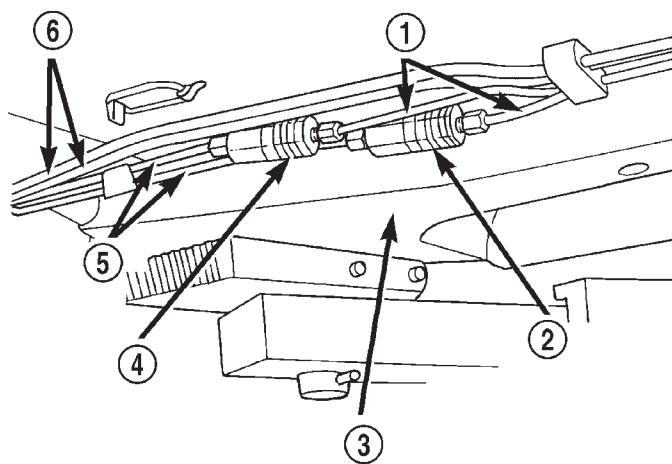

Fig. 39 Proportioning Valve Location
(1) Remove the chassis brake tubes (Fig. 39) from the proportioning valve controlling the rear wheel of the vehicle which has premature wheel skid.
(2) Remove the proportioning valve from the rear brake chassis tube.